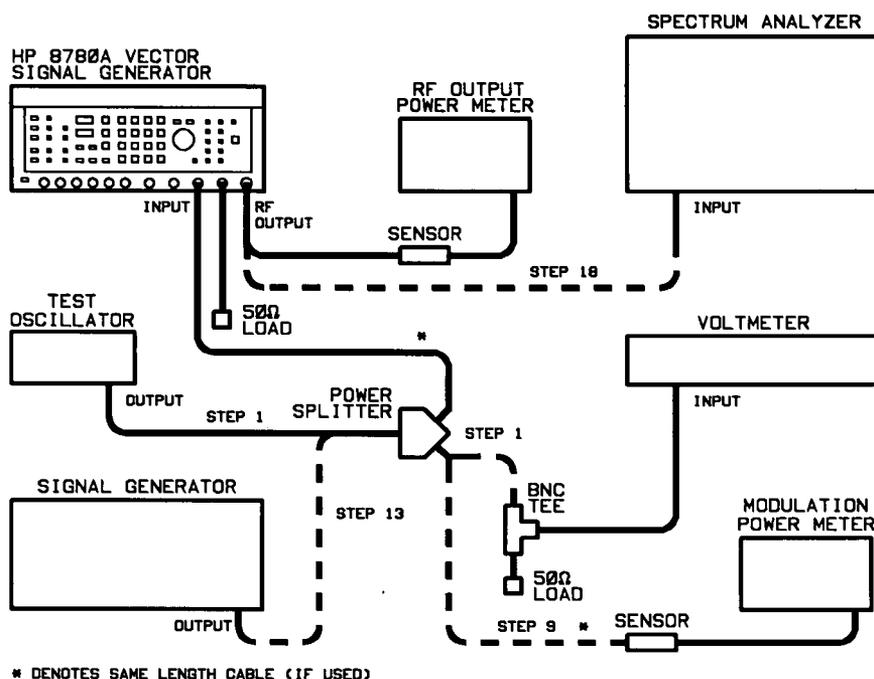

Figure 4-11. Vector Frequency Response Test Setup
1. Connect the equipment as shown in figure 4-11.